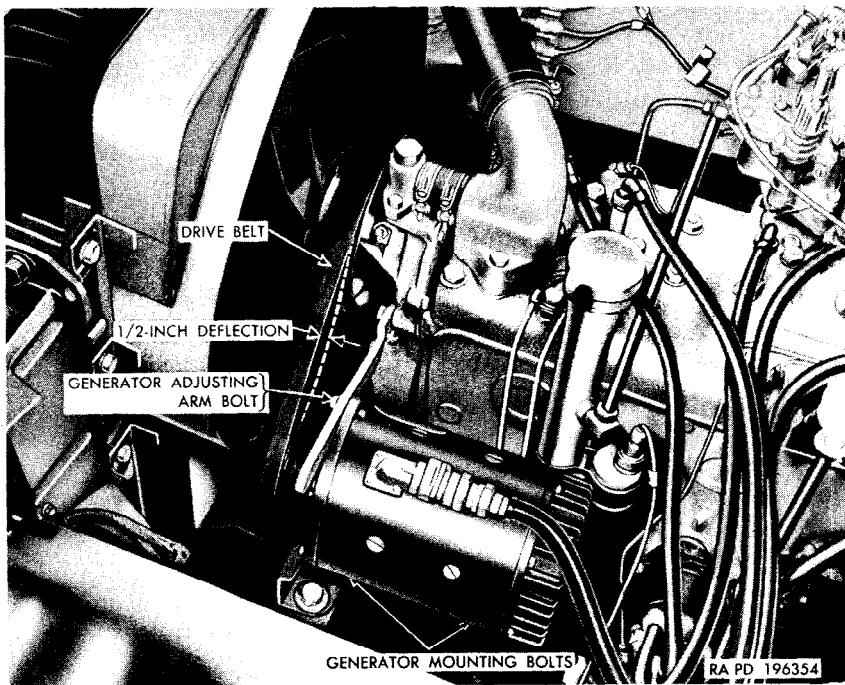

Figure 121. Adjusting fan and generator drive belt.
a. *Adjustment.* Loosen the generator adjusting arm bolt, and move the generator toward or away from the engine to provide $\frac{1}{2}$ -inch deflection of the belt (fig. 121). Tighten the adjusting arm bolt.
- (1) Loosen the generator adjusting arm bolt (fig. 121) and push the generator toward the engine as far as possible. Disengage the belt from the generator drive pulley, the crankshaft pulley, and the fan drive pulley and remove the belt over the fan blades.
- (2) Place a new belt over the fan blades, install it in position on the crankshaft pulley, the fan drive pulley, and the generator drive pulley. Adjust the belt (*a* above).